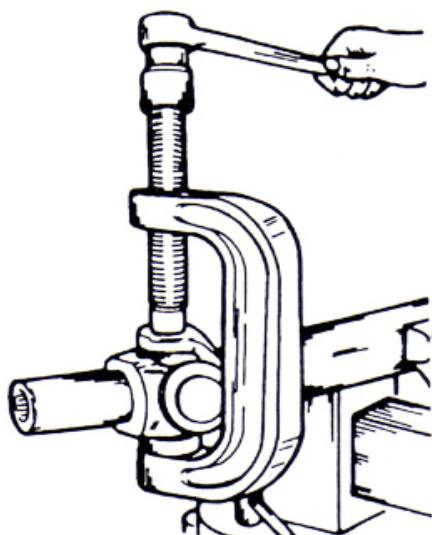

FIGURE 4
2. Position the C-frame press around the drive shaft yoke, and tighten the forcing screw until the fist bearing is removed as shown in Figure 4.